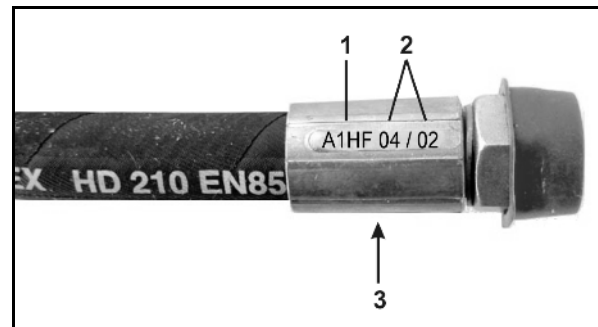

Fig. 96
2. Unscrew the magnetic cap (Fig. 96/1)
3. Remove the solenoid (Fig. 96/2)
4. Unscrew the valve rod (Fig. 96/3) with valve seats and clean with compressed air or hydraulic fluid.